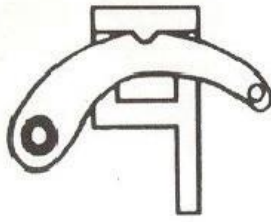

Figure 1.
1. Following all safety precautions, place the foot of the jack beneath the load. Lift the Reversing Latch (17) to its “UP” position and ensure it is locked in place, i.e. the indentation on the Latch is firmly engaged with the notch on the Reversing Switch (15), refer to fig. 1. Jack up the nose until it comes into contact with the load at the desired point of lift (consult the car manufacturer’s operation guide). Pause at this stage and check to ensure there are no obstacles to a clean lift.
2. Pull down firmly and evenly on the handle and observe the load rising. As the handle is pulled down you will hear the climbing pin (13) click into place as it locates in a hole in the steel bar (3). At this point relax the handle allowing the pin (13) to take the load. Raise the handle to the top of its stroke to take a fresh move and pump the handle once again.